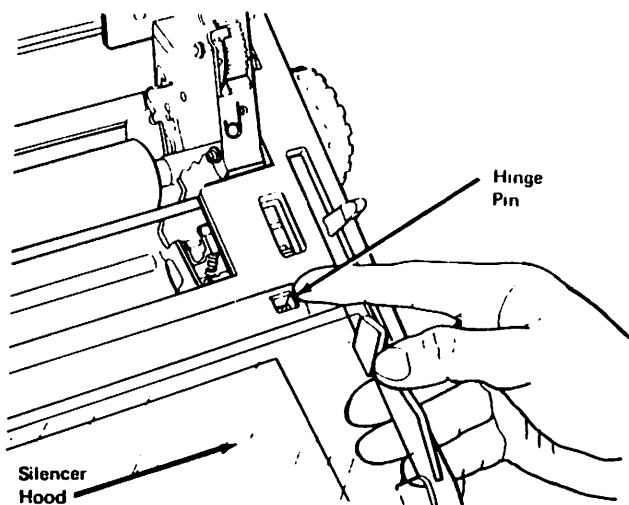

Figure 4 Removing silencer hood
3. Open the silencer hood, slide the right hinge pin to the left, and remove the hood (Figure 4).